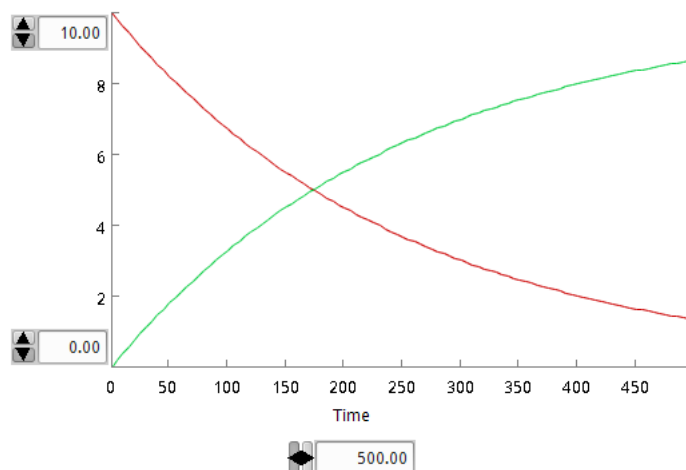

Figure 3:
- Set “End Time” to 500 and click the button “Execute”. You should see a graph like the one shown in Figure 3. As you can see the concentration of one entity decreases as the concentration of the second one increases as expected. *Protein A* is consumed in favour of *Protein A (Modified)*